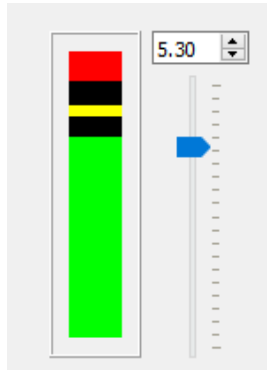

Figure 136 – Recording overloading input
- “**Record**” starts the recording process, coloured indicators will appear in the black box (Figure 136) according to the level set by the blue slider or numerical box.